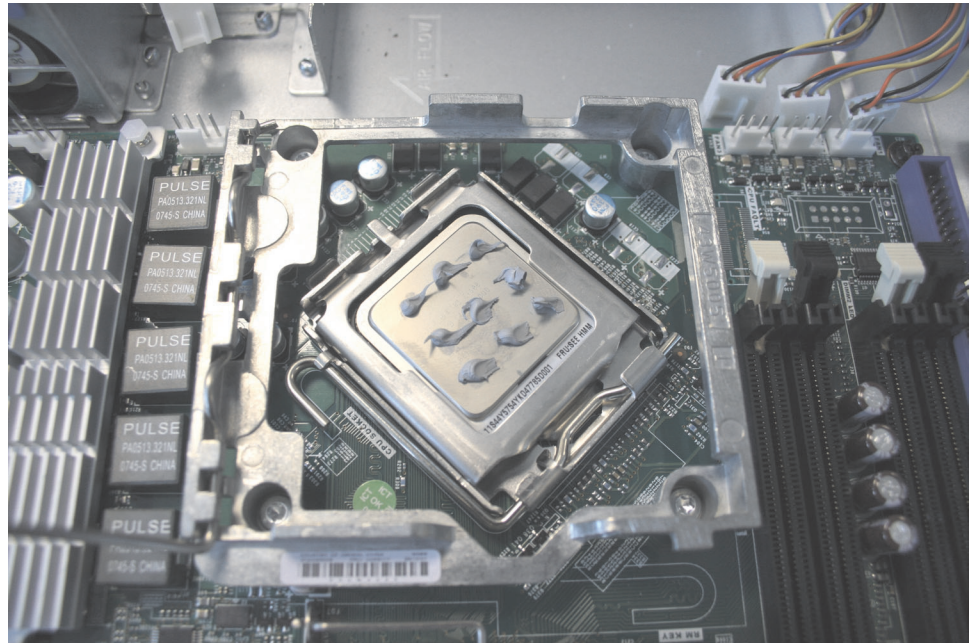

Figure 257. Complete set of nine thermal grease dots on the SAN Volume Controller 2145-8A4 microprocessor
- d. Apply thermal grease to the top of the microprocessor, as shown in Figure 257 on page 273. Apply nine dots of thermal grease in three rows of three dots each with the outer rows approximately 5 mm from the edge of the microprocessor. The diameter of the cap from the thermal grease syringe is 5 mm, so you can use it to judge the required position of the dots of thermal grease